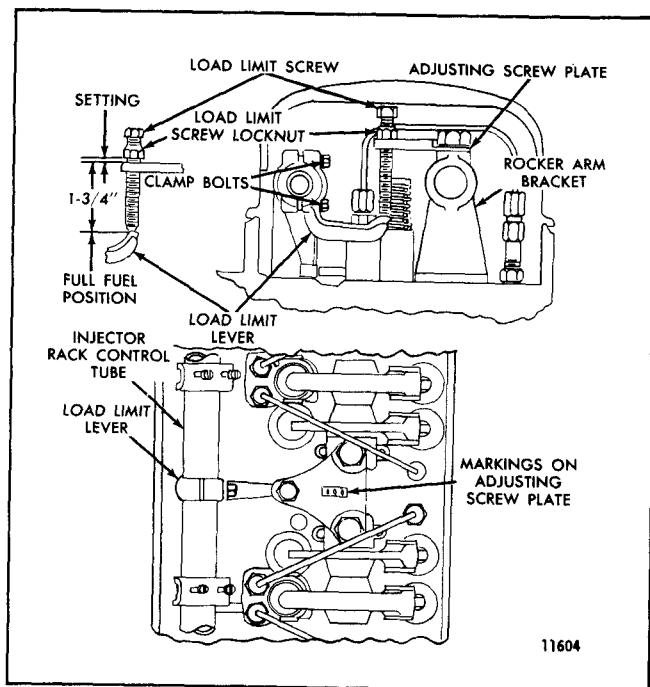

Fig. 1 - Engine Load Limit Device
Engines with mechanical governors may be equipped with a load limit device to reduce the maximum horsepower (Fig. 1).
After the engine tune-up is completed, make sure the load limit device is properly installed as shown in Fig. 1. Make sure the counterbores in the adjusting
3. With the screw out of the plate, adjust the load limit screw locknut so the bottom of the locknut is 1 3/4" from the bottom of the load limit screw (Fig. 1) for the initial setting.